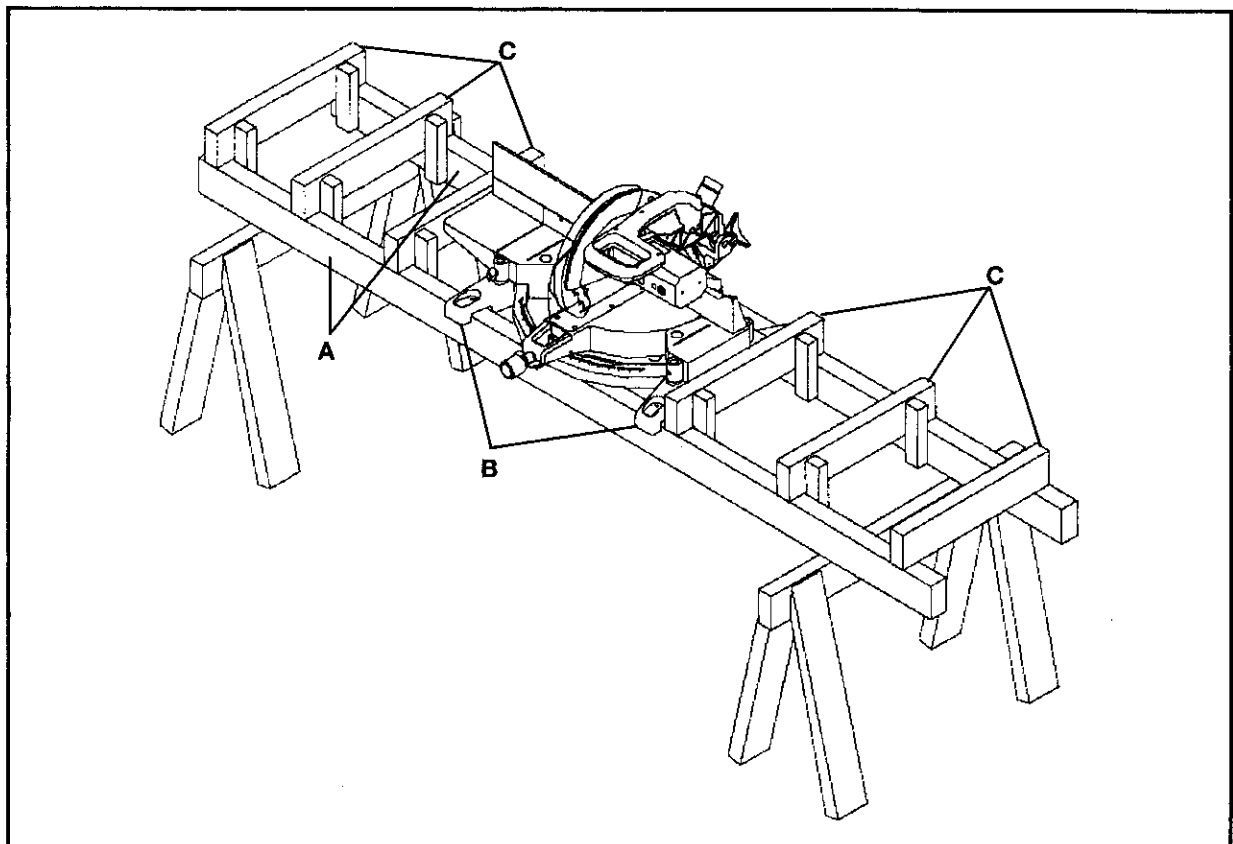

Fig. 41
One of the unique features of the miter saw is the ease of constructing work supports. Fig. 41 illustrates the miter saw mounted to two standard 2 x 4's (A). Fasten the grooves in the two mounting legs (B), to the 2 x 4's, using four screws through the four holes in the mounting legs. The length of the 2 x 4's (A) can vary, depending on preference. The distance from the top of the 2 x 4's (A) to the compound miter saw table $3 \frac{1}{4}$ ". Standard 2 x 4's (C) can then be fastened to the top of the 2 x 4's (A). The top of the 2 x 4's (C) will then be the same height as the miter saw table, or minor adjustments can easily be made depending on the height of the 2 x 4's. This method will provide support for long workpieces using standard 2 x 4's instead of constructing an expensive, complicated work support.